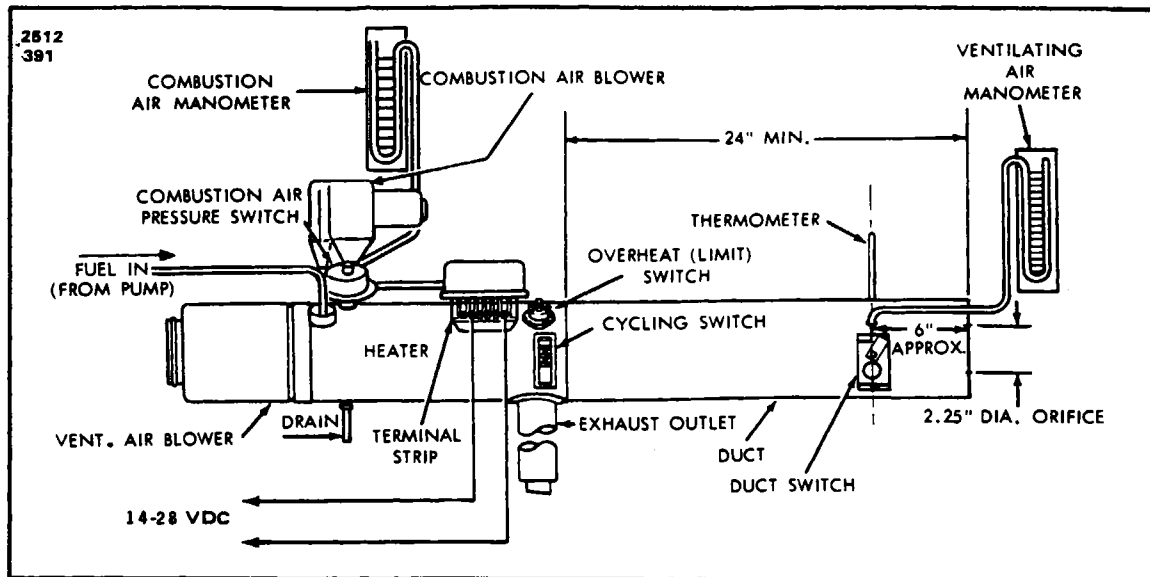

Figure 13-33. Suggested Set-Up for Heater Operation Test
13-131. EQUIPMENT REQUIRED. (Refer to Figure 13-33.)
- f. A piece of duct to be attached to the downstream end of the heater. It should have a minimum length of 24-inches and the same diameter as the heater being tested. A 2.25-inch diameter orifice should be centrally located at the outlet end. An aperature should be provided for the thermometer and duct switch and a static tap should be attached as shown in Figure 13-33.
13-132. OPERATIONAL TEST. (Refer to Figures 13-33 and 13-34.)
- a. Connect the heater to the test set-up as shown in Figure 13-33. Make sure the combustion air blower is mounted securely and that the heater is clamped to its supporting stand.
- b. Insert the duct switch in the sheet metal extension tube at the location shown in Figure 13-33.